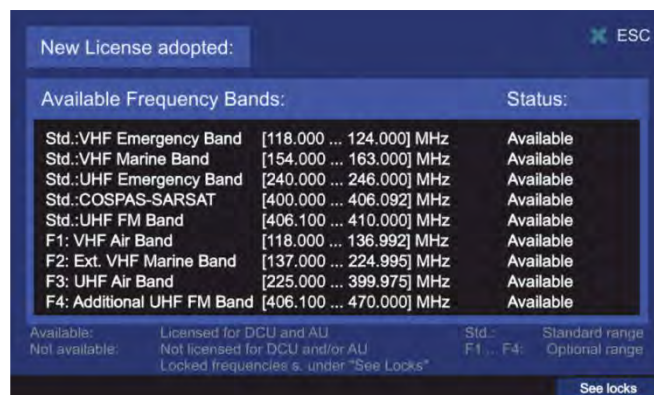

Figure 133. New license adopted
- o After confirming the new valid license with “OK”, a dialog will be opened, which shows the licensed frequency bands (s. Figure 133).